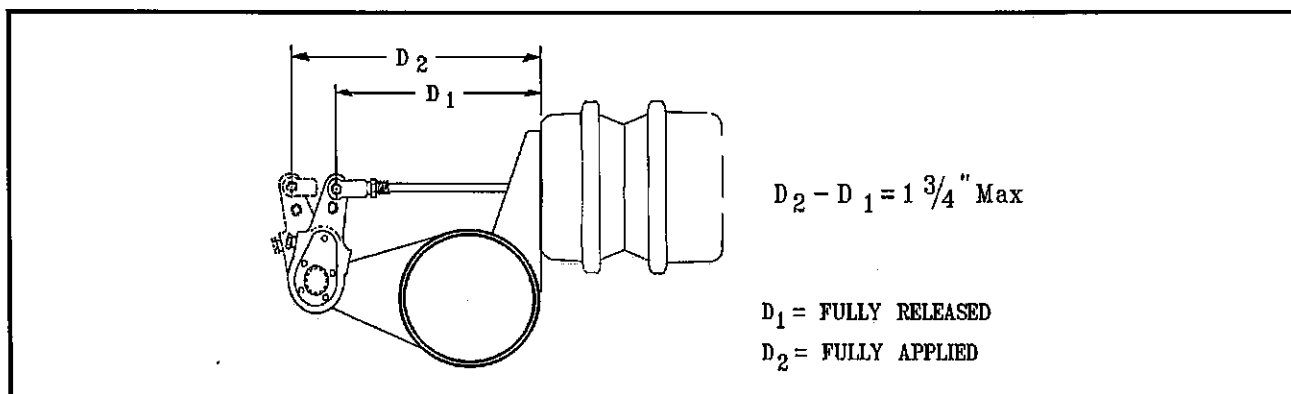

FIG. 6-3 CHECKING BRAKE ADJUSTMENT
d. Disconnect the slack adjuster from the connecting rod by removing the clevis pin (See **FIG. 6-3** on next page).
- Measure the distance (D_1) from the face of the brake air chamber to the center of the slack adjuster linkage pin (See Figure 6-3).